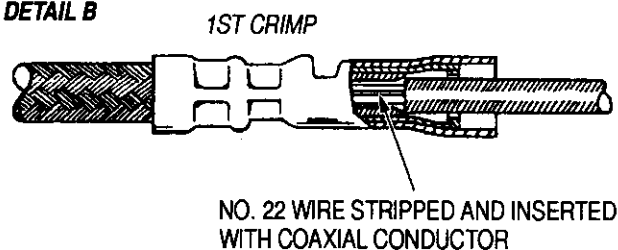
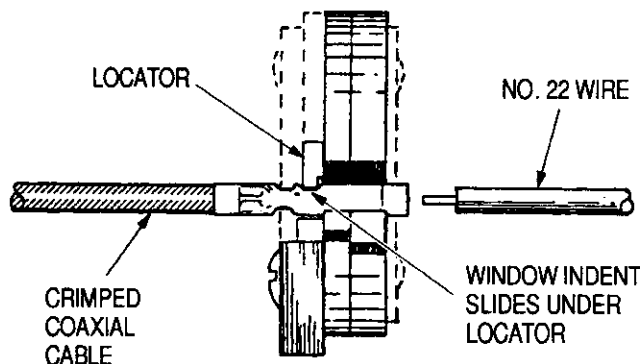

Figure 4
Figure 5
Refer to Figure 3, Figure 4, and Figure 5 and proceed as follows:
4. Insert stripped coaxial cable into splice so that the conductor passes through both splice wire barrels. Coaxial cable braid butts against end of splice. See Figure 3 and Figure 4, Detail A.
6. Position uncrimped half of splice in tool as shown in Figure 5. If splice cannot be turned, turn tool around.
8. Insert stripped No. 22 wire into splice as shown in Figure 5 and Figure 4, Detail B. When No. 22 conductor is inserted into wire barrel, ensure that coaxial cable conductor is not doubled back.